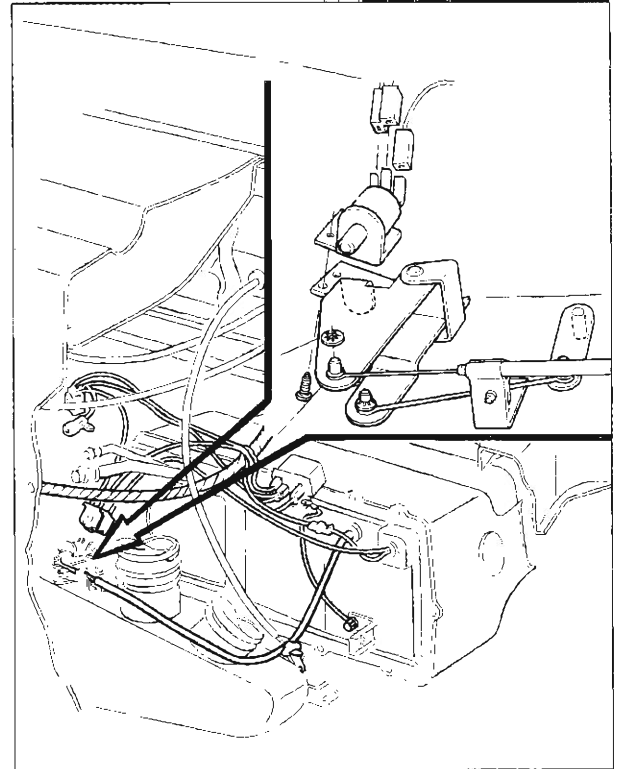

Fig. 55—Cable Removal
5. Reach through the glove box door to disconnect the air conditioning "on" door bowden cable (fig. 55).